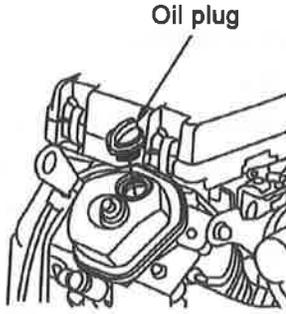
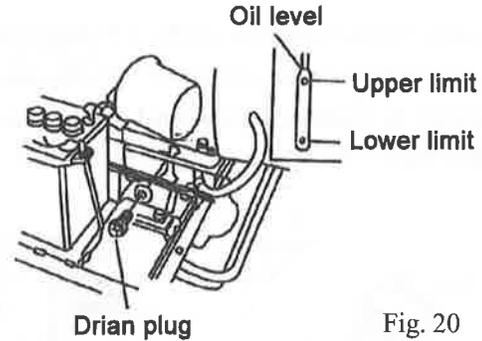

Fig. 19
Fig. 20
- 1) Turn off the oil filler cap (Fig.19) and drain plug (Fig.20) to drain engine oil thoroughly. Reinstall the drain plug and screw securely.